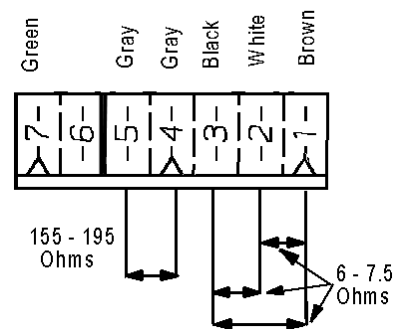

Figure 2– Schematic – Motor Harness
- Check phase windings of the motor. **See Figure 2.** If motor windings are good, replace the motor control board.